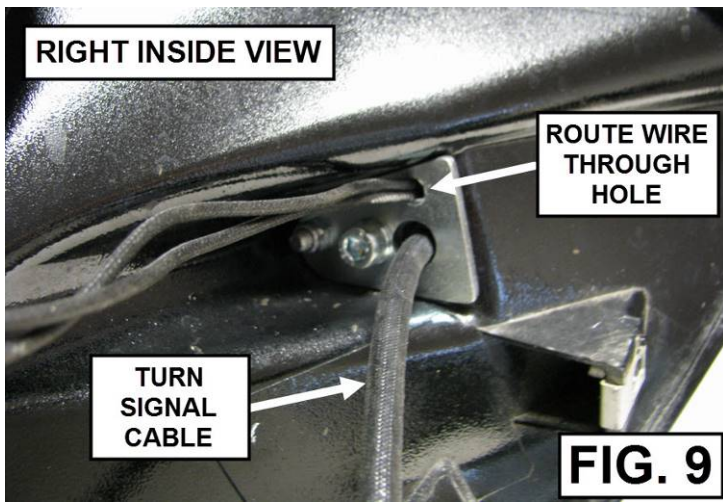

FIG. 9
20. ROUTE THE TWO WIRES FROM THE LIGHT THROUGH THE WIRE HOLE YOU DRILLED AND INTO THE INSIDE OF THE FAIRING. SEE FIG. 9.